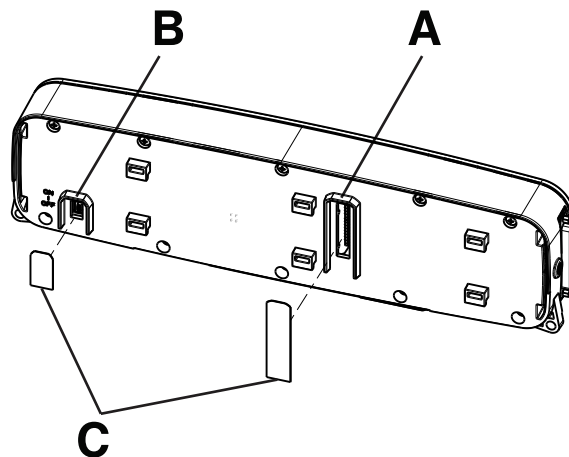

Figure 2 – Switch configuration
2. Using a straight pick, configure the SB1 and SB2 dip-switches (A) to match the nurse call system and nurse call communication cable (Figure 2).
3. Using a straight pick, turn the Secure Connect **ON/OFF** switch (B) to the **ON** position (Figure 2).
4. Affix the two supplied IPX labels (C) over the dip-switch and the **ON/OFF** cutouts located on the back of the Secure Connect (Figure 2).